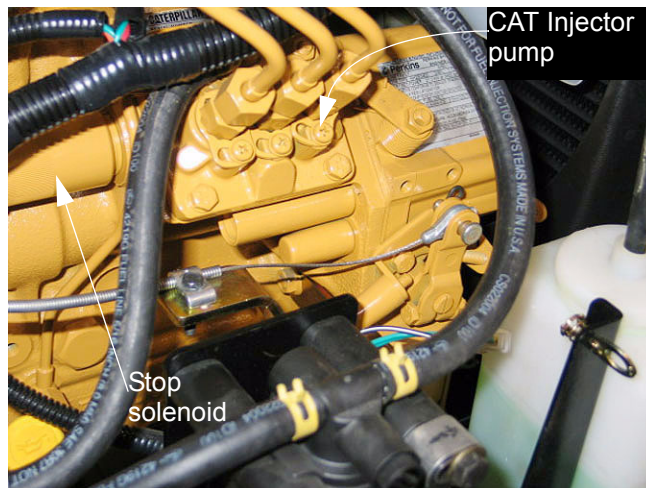

Figure 1.9
- 1.9. Diesel engines will have a stop solenoid on the injector pump to shut-off the fuel supply and turn-off the engine. See Figure 1.9.